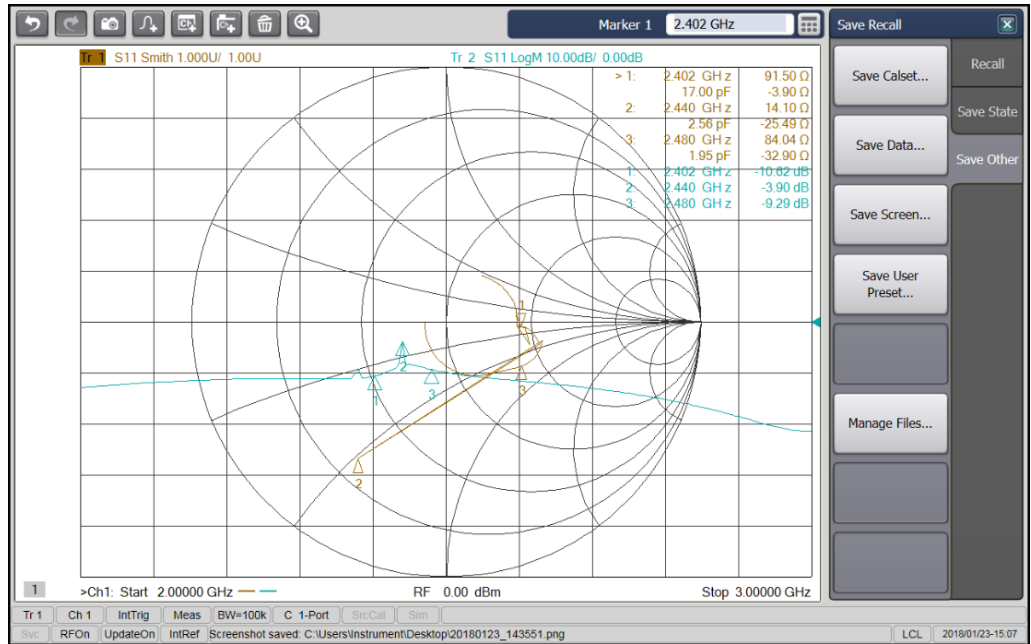

Fig 29. Tx return loss with smith chart
- The Tx S-parameters test result is shown in Fig 29.